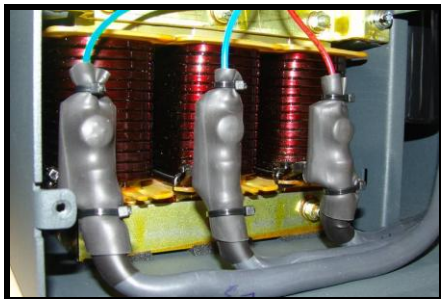

Figure 7.3.18
- 3) Remove the AC choke (see figure 7.3.18).
- 4) Insulate the power cables (see figure 7.3.18).